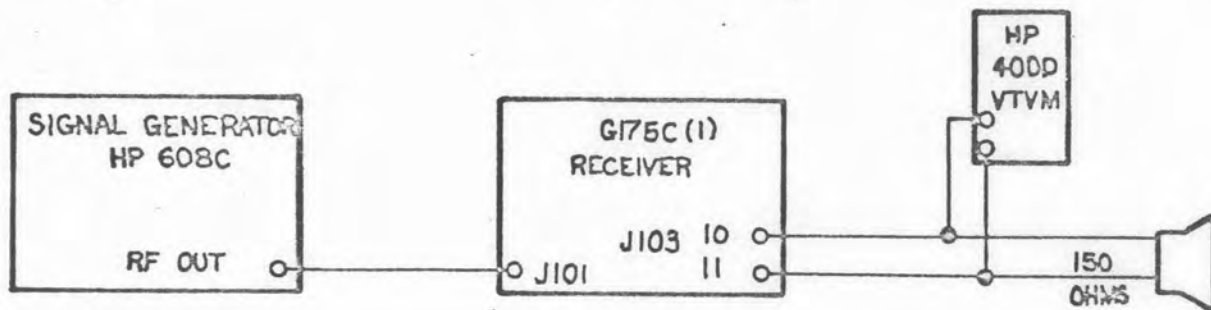

Figure 5-24
- a. Connect equipment as shown in figure 5-24.